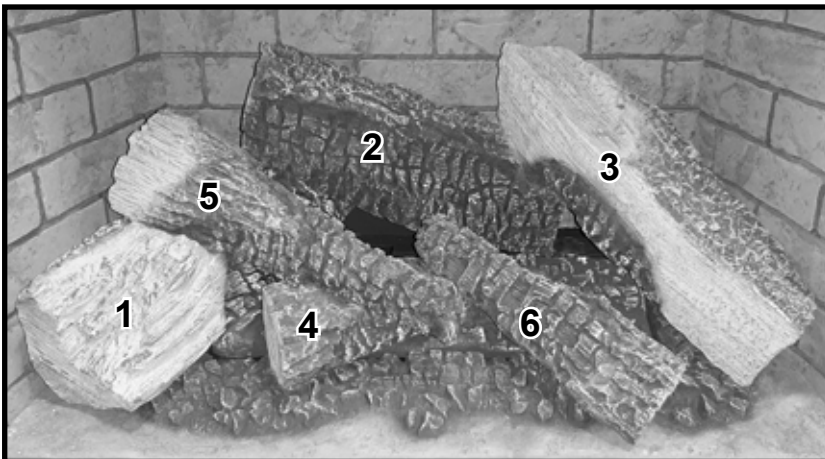

Figure 12 Log Set Installed
**Log #6:** Position Log #6 on the flat area of Log #4, which is highlighted in Figure 7. The top left corner of Log #6 will overhang the side of Log #4 by 1/2 inch. The bottom corner of Log #6 will be flush with the front of the firebox opening as noted in Figure 12.